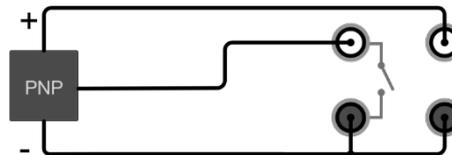

Figure 13 PNP Switch
- ◆ If PNP electronic switch is selected, connect the electric circuit as shown in Figure 13.